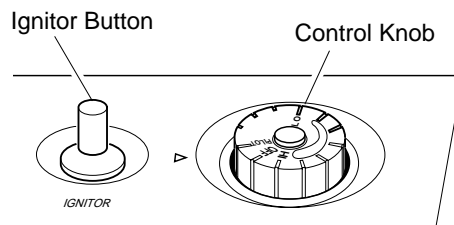

Figure 21 - Control Knob In The OFF Position
- Wait five (5) minutes to clear out any gas. Then smell for gas, including near the floor. If you smell gas, **STOP!** Follow "B" in the safety information, column 1. If you don't smell gas, go to the next step.
- Turn control knob counterclockwise  to PILOT position. Press in control knob for five (5) seconds (see Figure 21).